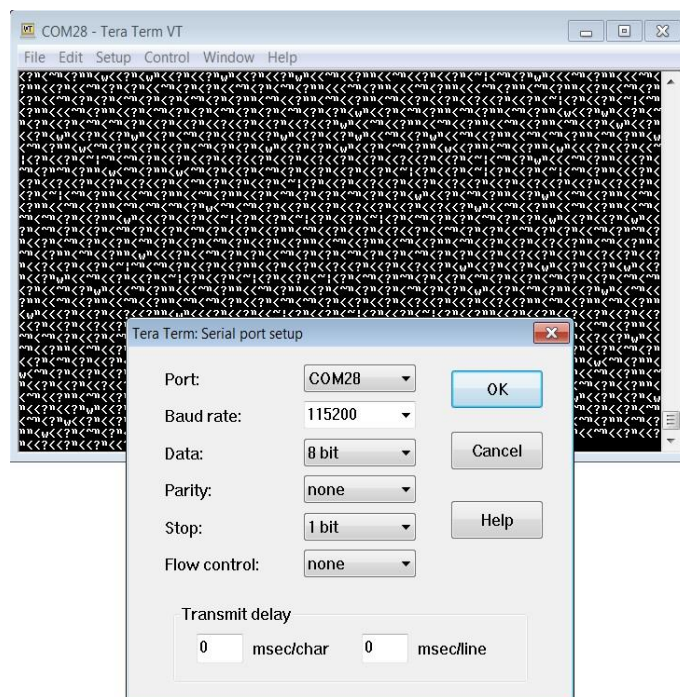

Figure 10: Setting Up the Port and Testing Connectivity via Tera Term
5. Select **Setup > Serial Port** and configure your UART port using the parameters shown in **Table 1** (you need to be an administrator on your local machine), see **Figure 10**.